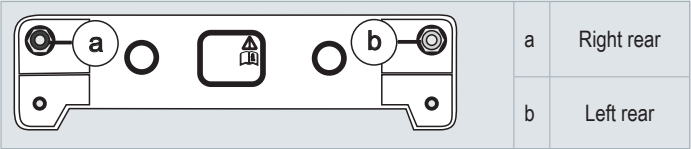

Fig. 3 Emergency filling valves
**i** The valves are mounted in the same relative position (in the driving direction) as the air suspension bellows that they feed. They are also labelled ("Fig. 3 Emergency filling valves").